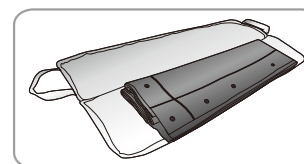

Figure 27
- Put the folded fabric into the fabric bag and fasten the slide (Figure 27 - 28).